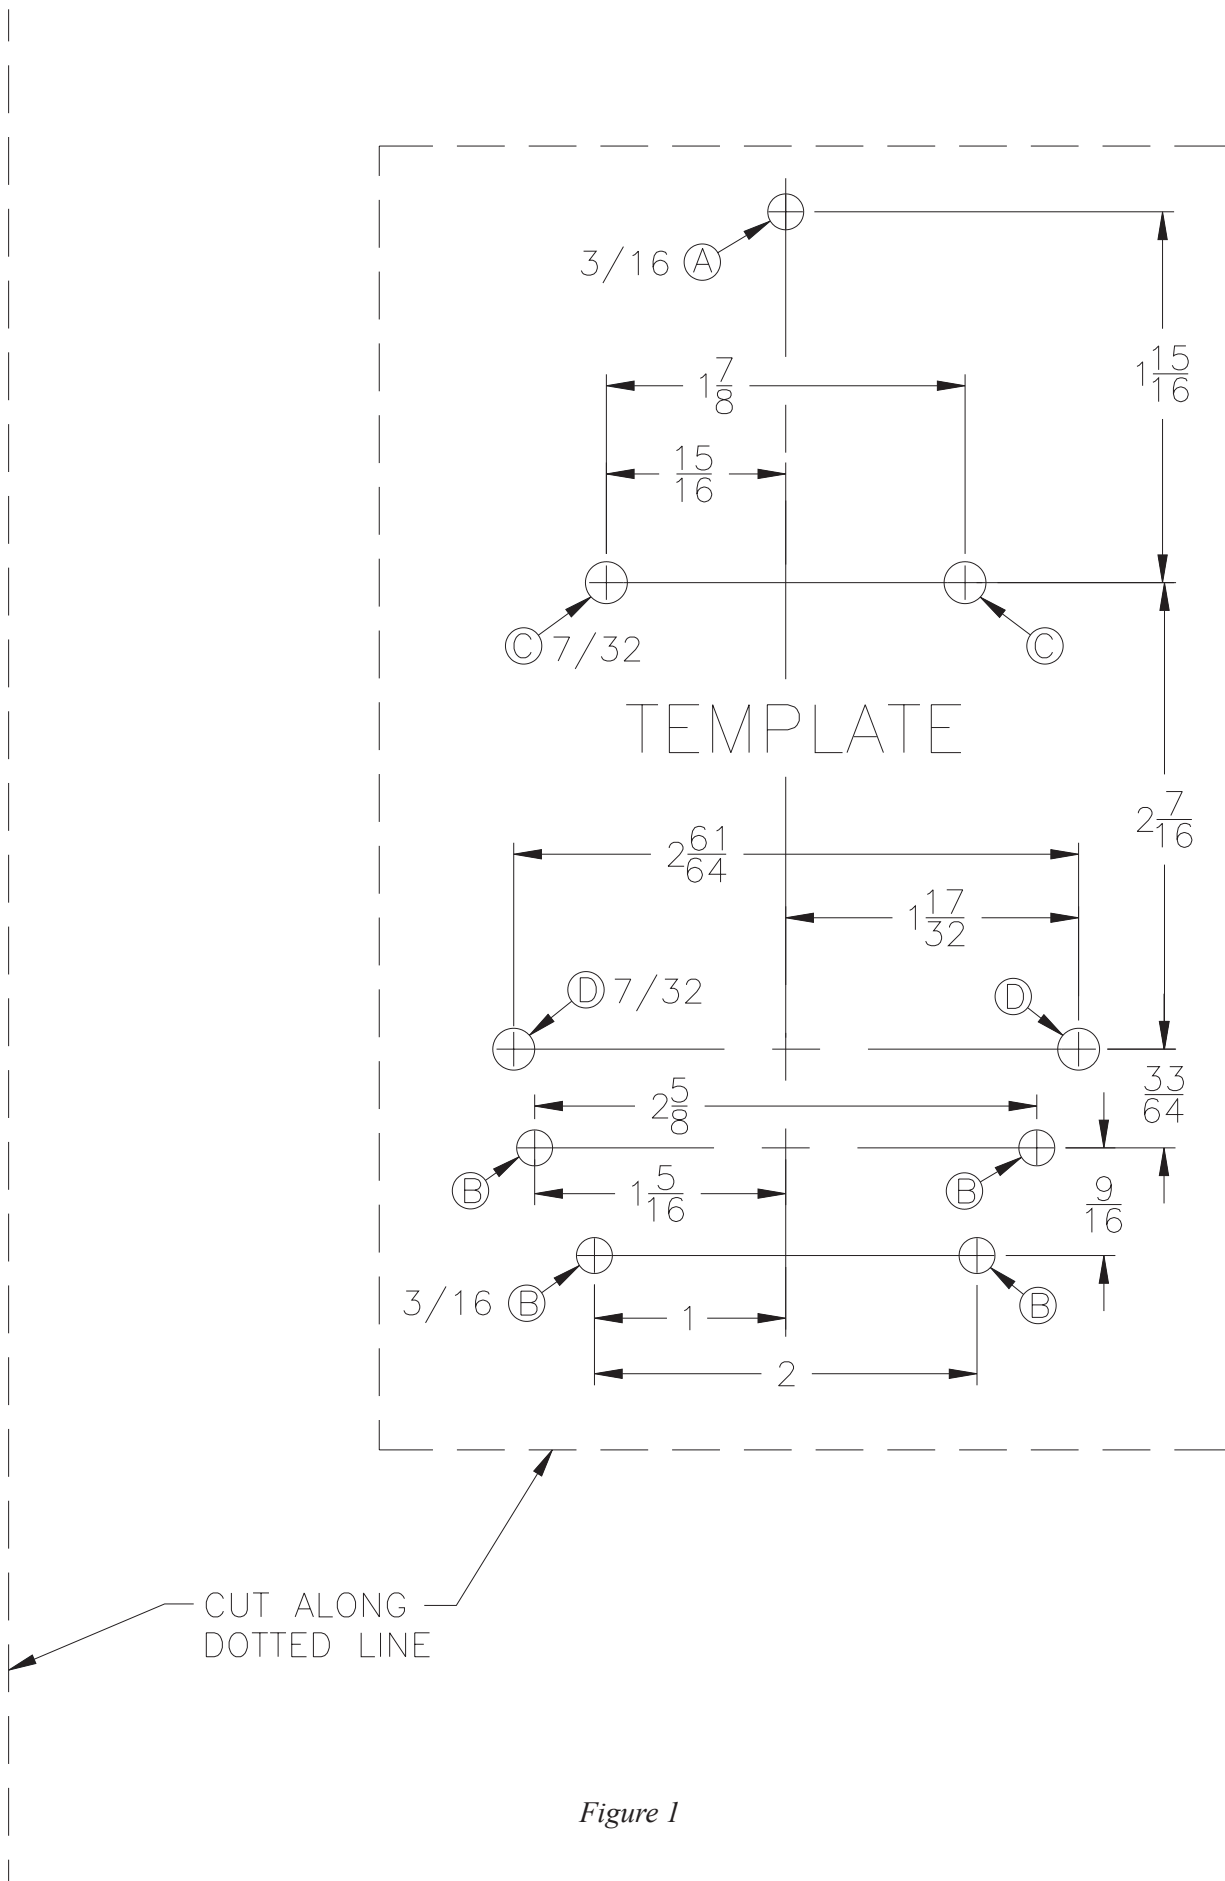
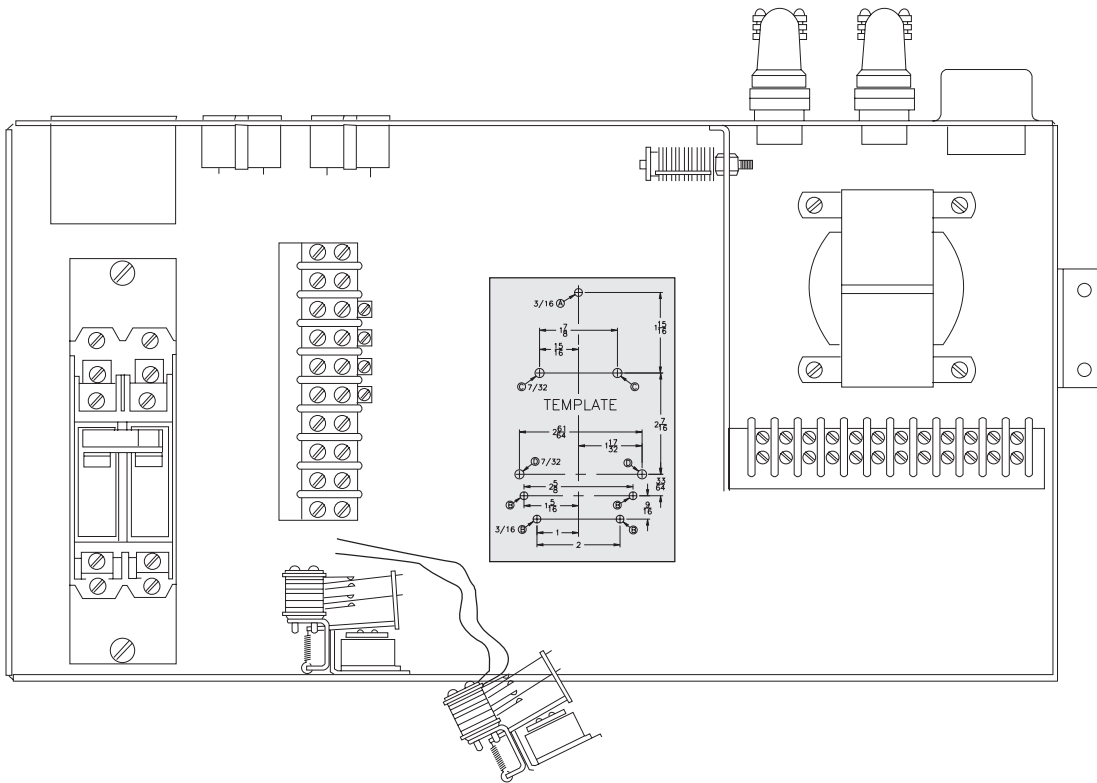

Figure 1
Figure 2
2. Remove the electrical control box cover from the pinsetter. Refer to *Figure 2*.
5. Remove the screws that hold the time delay unit or recycle relay and motor start relay and pull them out of the box to the limit the wires will allow. Refer to *Figure 2*.
7. Place the drilling template, (*Figure 1*, page 3), into the void left by the old “GE” thermal overload relay and locate holes “A” and “B” on the template with holes “A” and “B” in the box. Hole “A” is the top center hole for the old contactor. Hole “B” is over the motor start relay. Holes “C” are the holes for the “Deltrol” contactor. Hold template in place with masking tape. Refer to *Figure 2*.